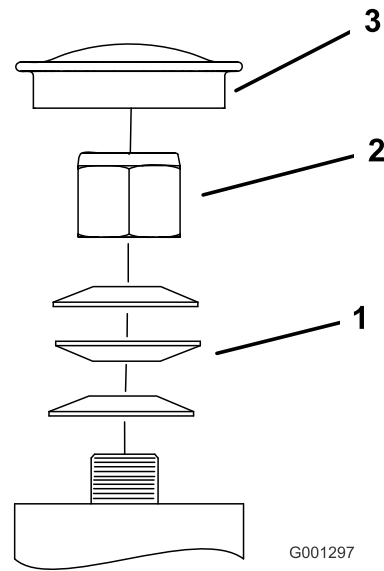

Figure 73
3. Remove the dust cap from caster and tighten the locknut (Figure 73).
4. Tighten the locknut until the spring washers are flat, and then back off a 1/4 turn to properly set the preload on the bearings (Figure 73).
Important: Make sure that the spring washers are installed correctly as shown in Figure 73.
5. Install the dust cap (Figure 73).